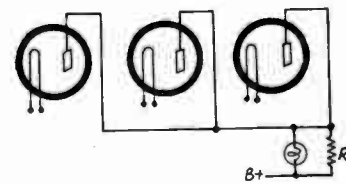

FIG. 1
If we have a receiver that has tubes subject to automatic volume control, the variation in current through a series resistor may be expected to be larger than if there were no a.v.c. Thus a series resistor R in Fig. 1, between the common lead of the B returns of the coil primaries, and B plus, would have a varying voltage drop, depending on the carrier amplitude. The higher the amplitude, the greater the bias due to a.v.c., and possibly the less the current. Therefore the voltage drop across the resistor is less the greater the carrier amplitude, and the lamp would modulate downward, so to speak. There would be less illumination the greater the amplitude, or, resonance might even cause the lamp to go out.
One can not say offhand, in respect to all receivers, that the lamp will modulate upward or downward in the Fig. 1 circuit, because the effect of the signal itself is to reduce the bias, and if the a.v.c. is not more effective than the signal, then the signal will reduce the bias more than the a.v.c. will increase it, and while some benefit from a.v.c. would be present, nevertheless the lamp would modulate upward (brightest at resonance), with not much illumination change at best.
**FIG. 1.** The plate characteristics of the tetrode portion of the 1A6. The screen voltage was 67.5 volts, while grids Nos. 2 and 3 were tied to filament center. The curves are of plate voltage, plate current, for control grid negative biases.